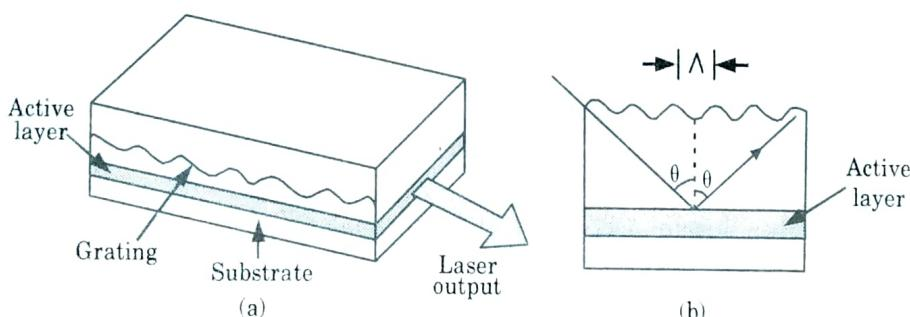

Fig. 3.15.1. Distributed feedback, (DFB) laser diode; (a) Structure of DFB laser diode; (b) Working of distributed feedback.
1. A typical DFB laser configuration is shown in Fig. 3.15.1(a). A DFB laser diode has the Bragg grating incorporated into its heterostructure in the vicinity of an active region.
4. This is done by reflecting a portion of the light at each slope of the grating as shown for one beam in Fig. 3.15.1.(b). All the portions reflected at each slope of this corrugated structure then combine so that most of the light will be reflected back provided that Bragg's condition is satisfied.